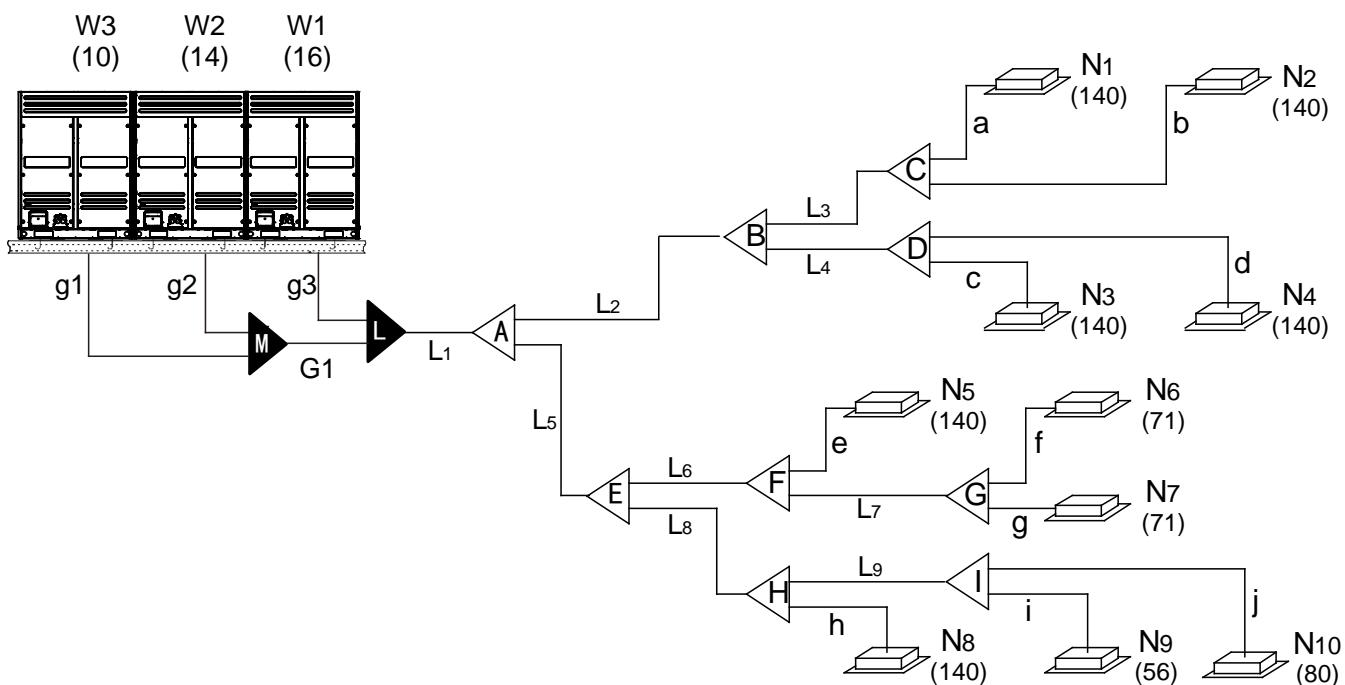

Figure 4-2
Note: In Figure 4-2, the capacity unit of indoor side is ($\times 100W$), and the outdoor side is HP.
E.g. The pipe (a ~ j) in Figure 4-2.
E.g. The branches (A ~I) and indoor main pipe (L2~L9) in Figure 4-2.
E.g. The main pipe (L1) in Figure 4-2.
E.g. The branch (L, M) and outdoor unit pipe (g1, g2, g3, G1) in Figure 4-2.